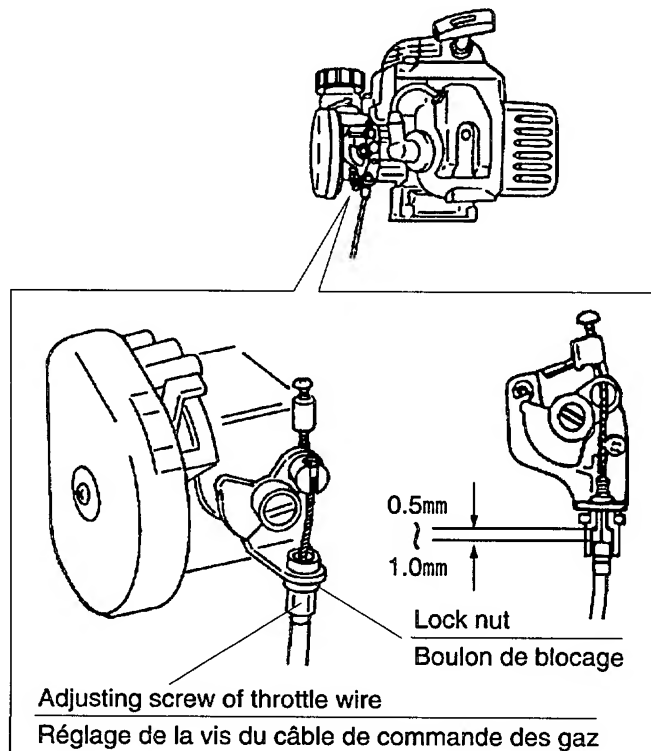

Fig. 4
1. Preparation before engine starting (Fig. 4)